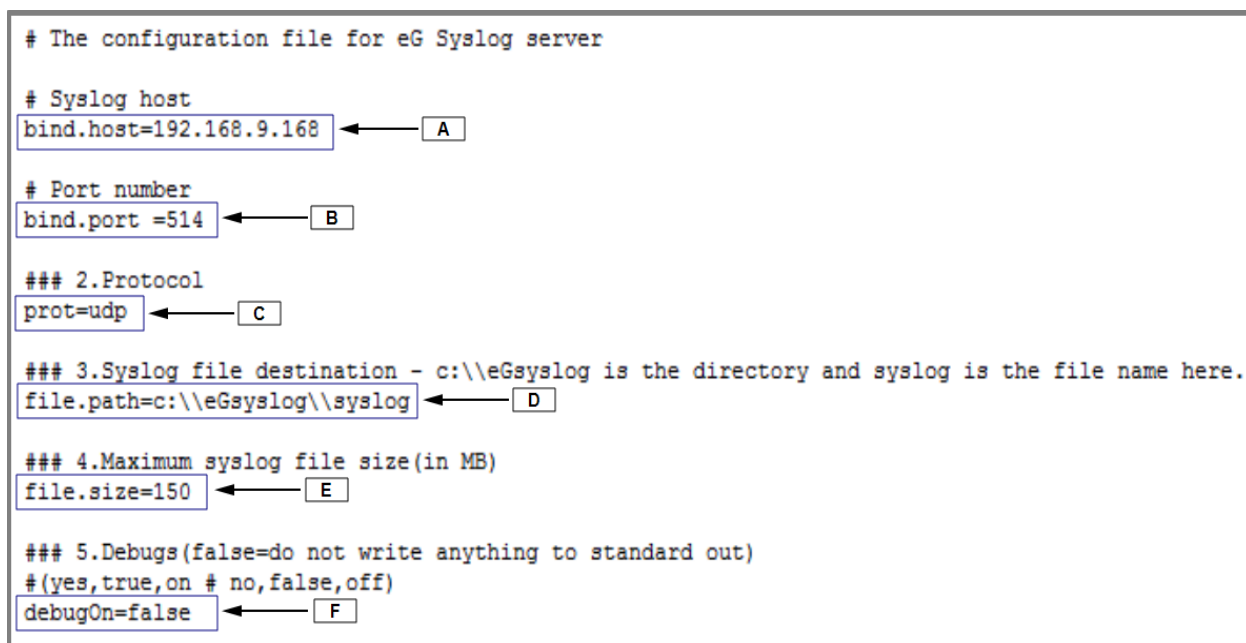

Figure 1.2: Specifying the configuration details in the syslog.properties file
2. When Figure 1.2 appears, provide the configuration details as shown in Figure 1.2.